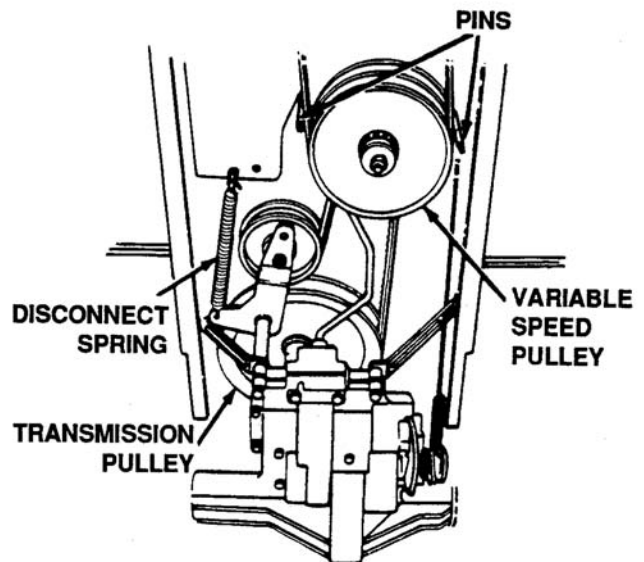

Figure 7-33. Location of Pins
- e. Remove the two pins which act as belt keepers by the variable speed pulley. See Figure 7-33.